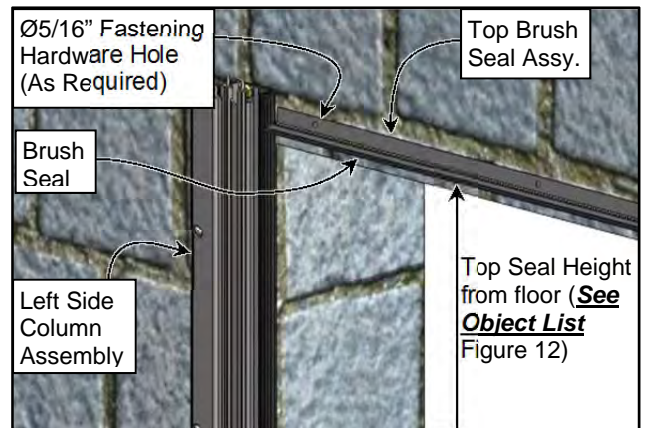
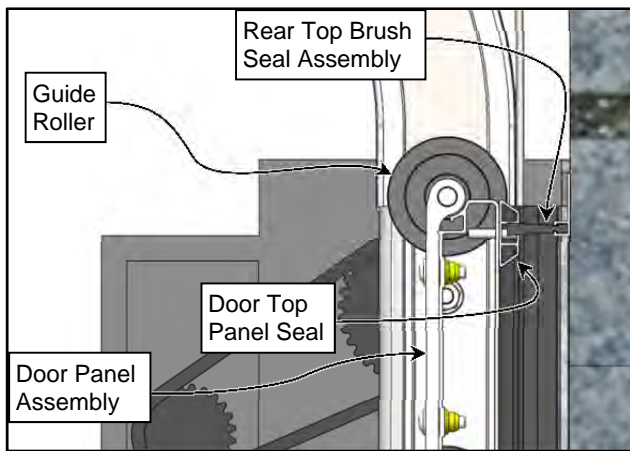
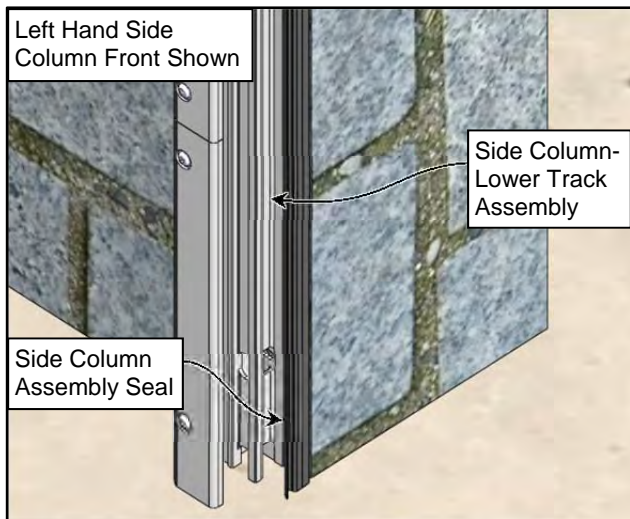

Figure 25
Figure 26
Figure 27
There are weather seals on the front & rear side of the door panel in the side columns as well as a brush seal between the door and the wall along the door's top lintel. (See Figure 25 & Figure 27)
3. Inspect the entire length of the brush weather seal along the door's top lintel for wear and damage. The Rear Top Brush Seal Assembly should seal up against the door's Top Panel Seal as shown. (See Figure 25 & Figure 26)
4. Inspect the weather seals in both side columns. Check for wear and tear, and check for a good, tight fit between the door panel and the seal. (See Figure 27)